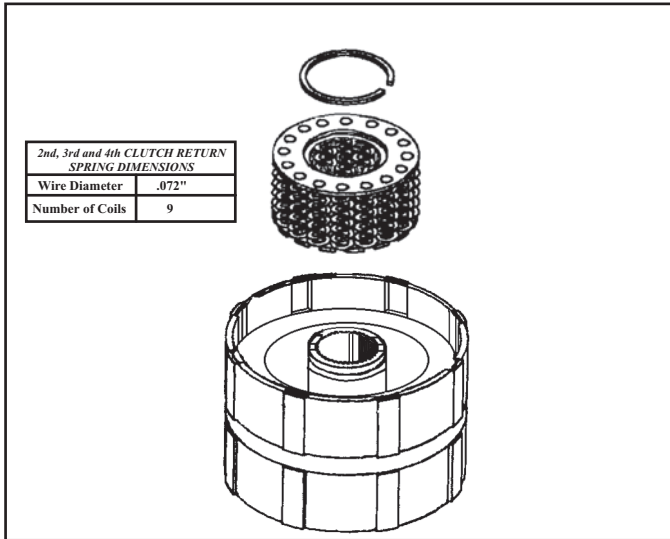

Figure 114
- Place the piston return spring assembly into the 3rd clutch drum. Using Saturn's spring compression tool SA9146T or equivalent, carefully compress the spring. With the spring compressed, use a suitable pair of snap ring pliers and install the retaining snap ring (See Figure 114).